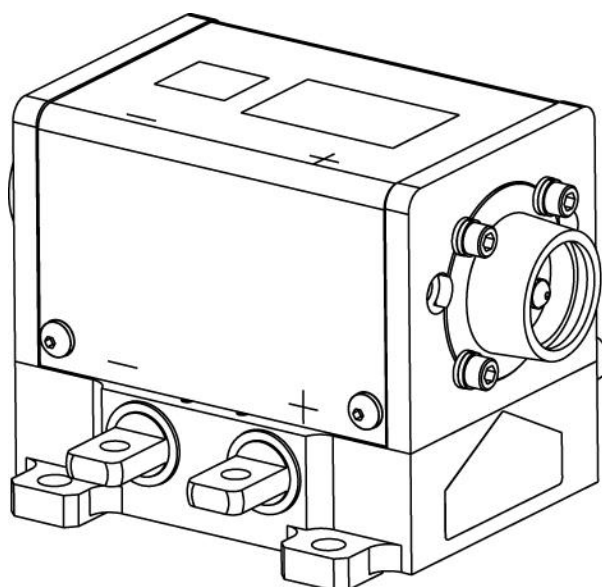

Figure 3-1 RBAT with Ring Tongue Terminals
The RBAT module connects to diode drive current via a ring tongue terminal (8-32 UNC-2B, see Figure 3-1). Positive and negative terminals are etched into the cover. NG will sell cables for connecting this plug to customer's preferred electronic connector. Customer should specify connector type and cable length.
2. Place a shorting connector across the module electrical contacts shown in Figure 3-1.